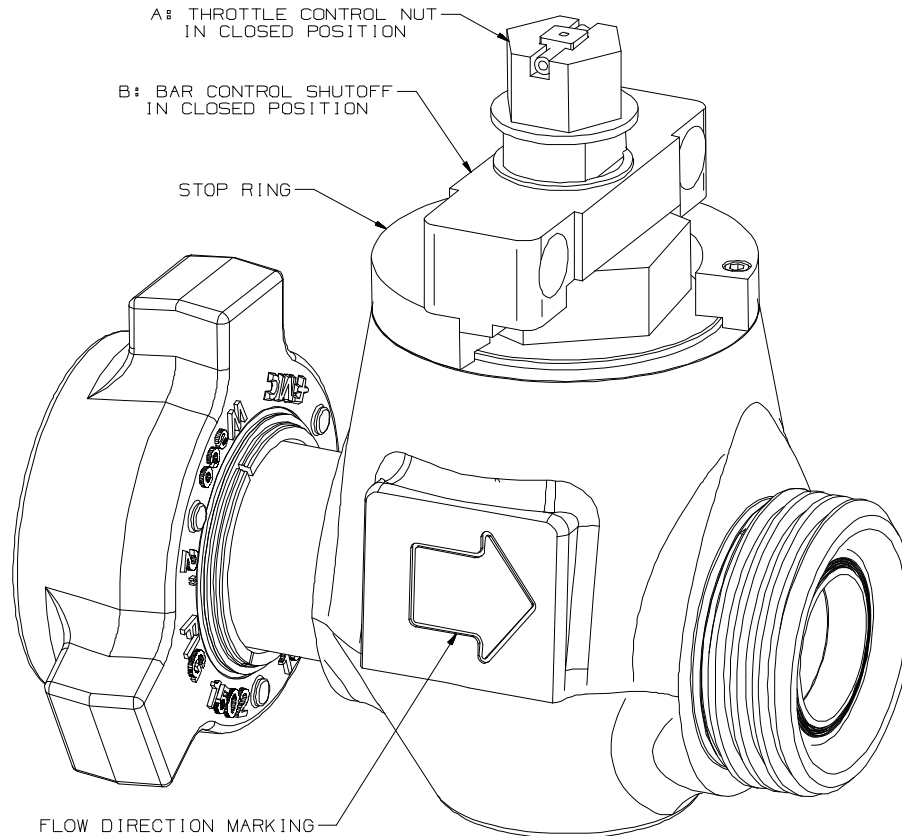

Figure 2: Valve fully closed
3. Before operating the valve, verify that the stop ring is installed on top of the valve (see Figure 2). It is secured with two cap screws. This ring prevents the body cap from backing out of the body and also provides the quarter turn stops for the bar control. Do not operate the valve without this stop ring properly installed. The absence of this ring can allow the body cap to back out of the body and create an unsafe condition.
Do not operate the valve without the stop ring (see Figure 2) properly secured to the top of the valve. The absence of this ring can create an unsafe condition.
- a) The valve should initially be in the line in the fully closed position with the bar control shutoff perpendicular to the flow bore and the throttle control nut all of the way down (see Figure 2).
4. Verify that the stop ring (see Figure 2) is properly secured to the top of the valve.